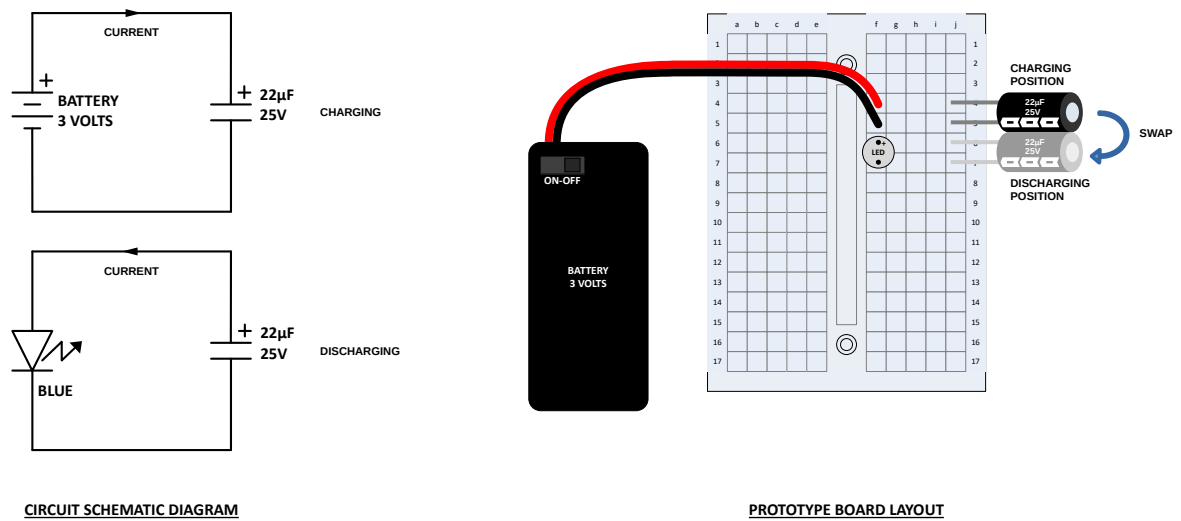

Figure 42: Capacitor Charging and Discharging
- Each student builds the circuit in Figure 42 using a prototyping board, 2x1.5V AA batteries, 3V switched battery holder, 22 μ F 25V electrolytic capacitor and 2V blue LED.